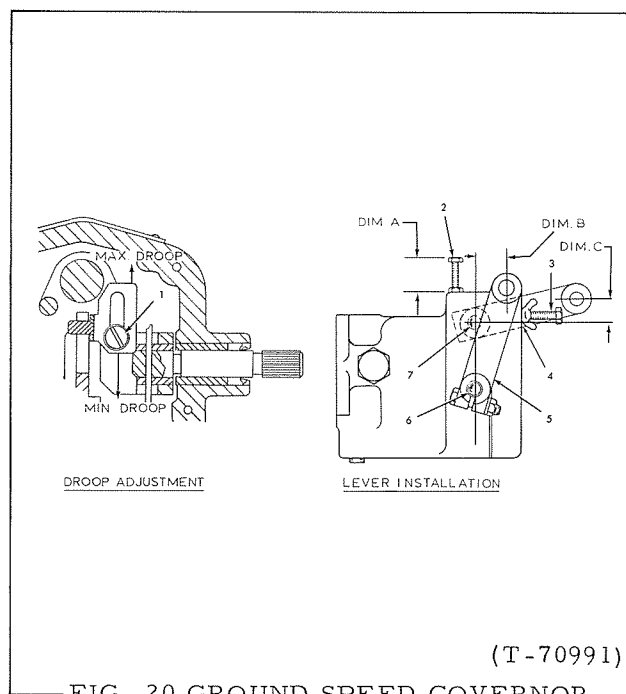

FIG. 20 GROUND SPEED GOVERNOR—
- g. Move droop adjustment bracket to maximum droop position, Fig. 20; secure with droop adjustment screw.
- a. Turn high speed adjustment screw, Fig. 20 (2) in or out until top of adjustment screw head is .75" (19.05 mm) above housing, DIM. "A"; lock capscrew.
- b. Install low speed adjustment capscrew Fig. 20 (3) w/wing nut; turn capscrew in until it is approximately .88" (22.35 mm) above housing cover.
- c. Turn terminal shaft (6) clockwise as far as possible; install terminal shaft lever (5) with centerline of yoke pin hole 1.34" (34.02 mm) DIM. "B" to the rear of the terminal shaft centerline.
- d. Turn speed control shaft, Fig. 20 (7) clockwise as far as possible; install speed control shaft lever (4) with centerline of yoke pin hole .88 in. (22.35 mm) DIM. "C" above centerline of speed control shaft.
- h. Start engine and allow it to warm up. Move governor hand control lever forward as far as possible; pull throttle lever back slightly from low idle stop. Turn low speed adjustment capscrew, Fig. 20 (3) in until terminal shaft lever (5) moves forward. Back capscrew out until terminal shaft contacts internal stop; back screw out an additional 1/2 turn and lock. Adjust engine control linkage to obtain specified low and high idle speeds (refer to Operating Instructions and Field Maintenance Manual)